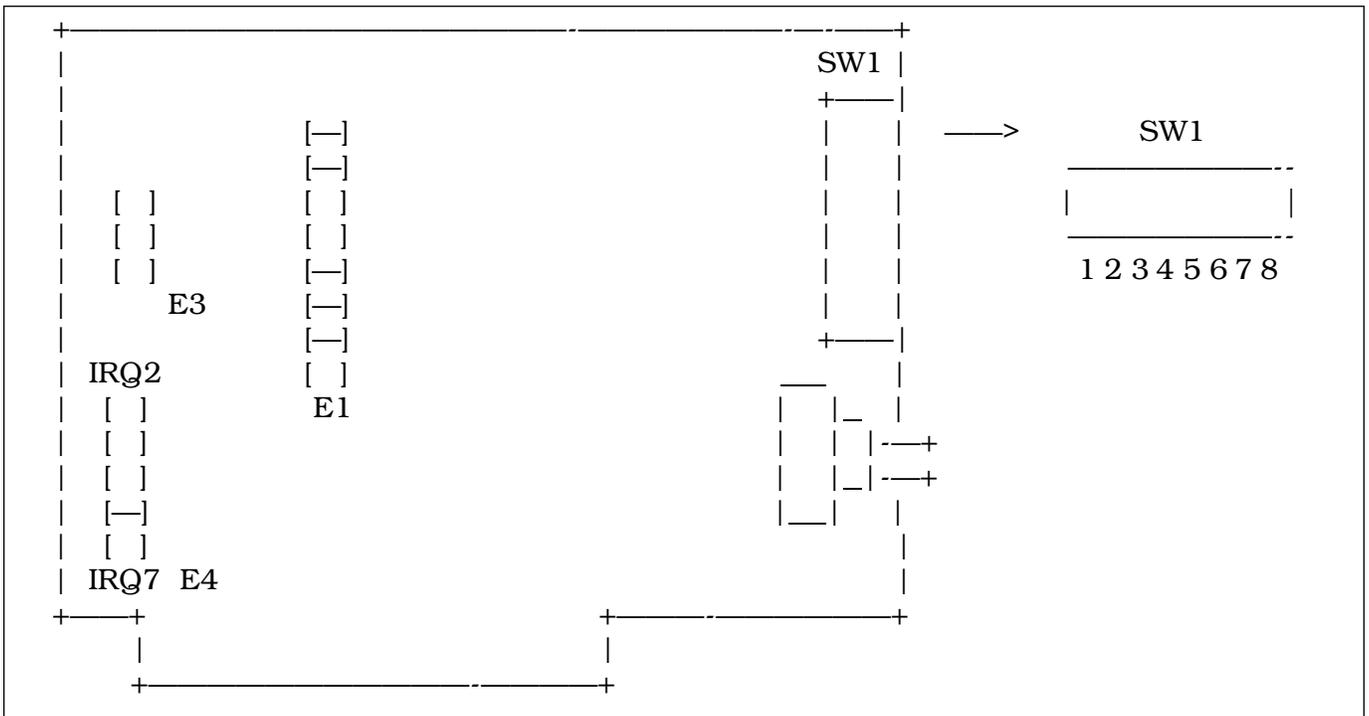

Figure 1. CCSI ARCNET Card Jumper Settings
- A. For your system computer (PC), you must have the equivalent of an IBM PC/AT (i.e. a machine with an 80286 processor) or better. Also, your machine must have a math co-processor such as an 80287 for the 80286 processor.
- B. Set the jumpers and switches on the CCSI ARCNET card (type PCX-CXB) as shown in Figure 1.